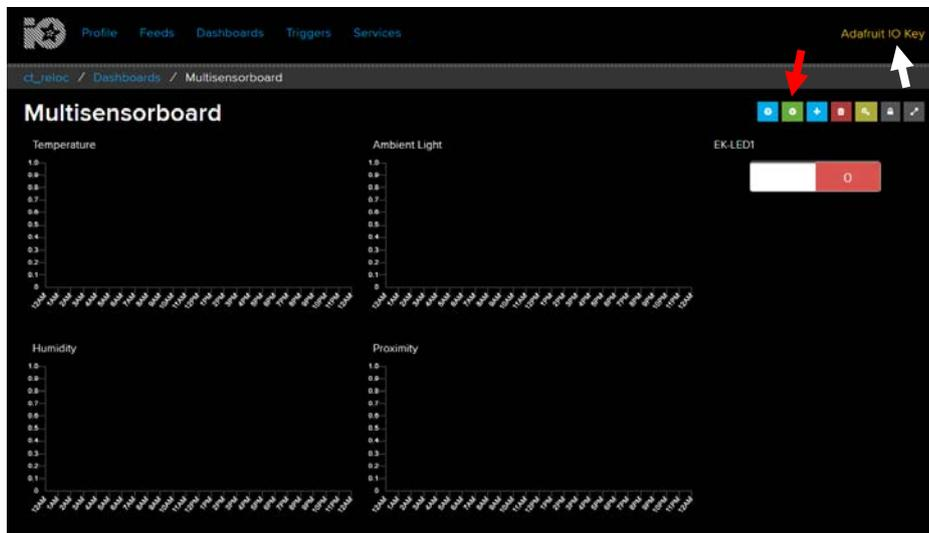

Figure 13: Complete Dashboard view.
- c. It is possible to rearrange the objects on the dashboard (Figure 13).
It is possible to find them clicking on the Adafruit IO Key button indicated by the white arrow in Figure 13.